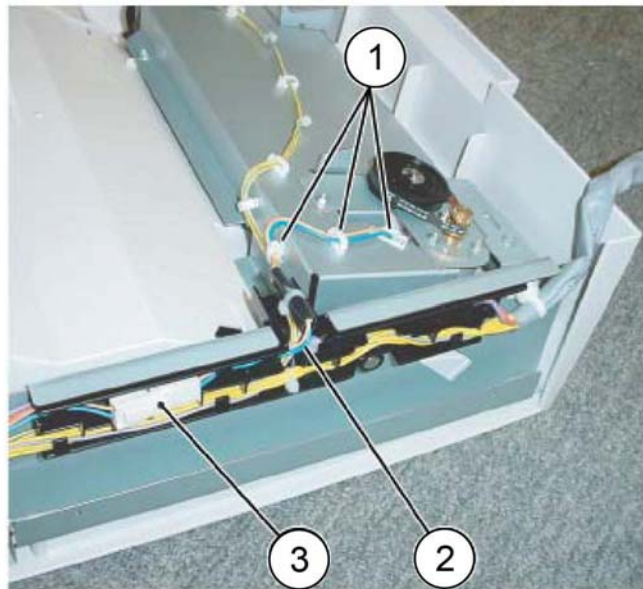

Figure 1 Connector
5. Disconnect the connector, Figure 1:
- a. Release the harness from the three clamps (1).
- b. Release the harness from the retainer (2).
- c. Disconnect the connector (3).